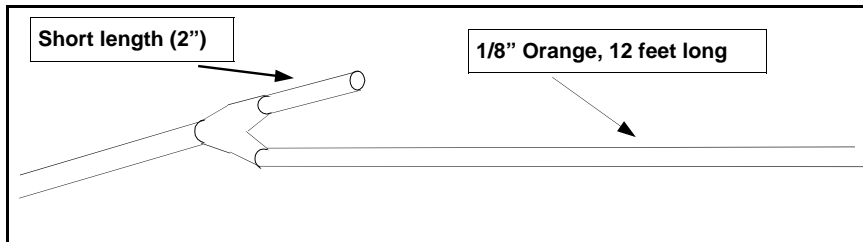
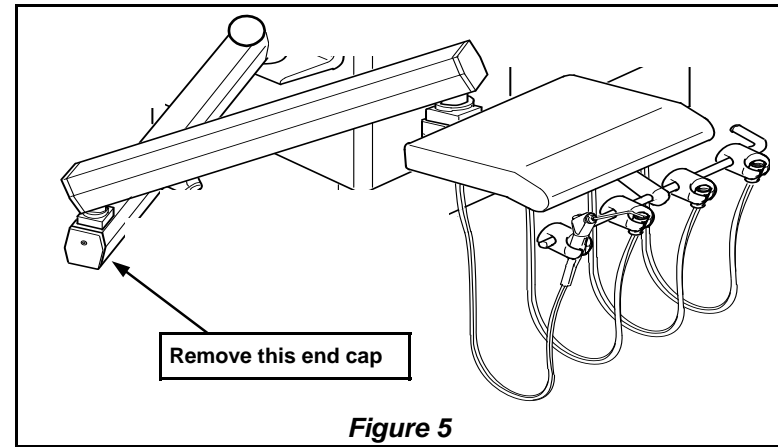

Figure 6
Figure 5
- Remove the end cap from the rigid arm, as shown in **Figure 5** (1/8" hex key).
Use figure 5 if your foot control has 4-hole tubing. Use figure 6 if it has 5-hole tubing.